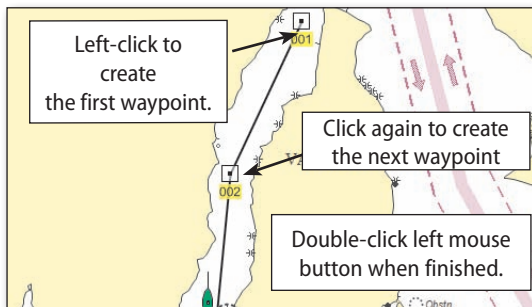

Figure 8.3 - Creating a Route
2. Click on the chart to place the first waypoint (see **Figure 8.3**). As you move the cursor to the next position, a line is drawn from the previous waypoint to the cursor and range/bearing text is displayed.